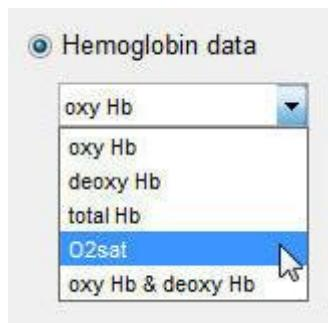

Figure 8-6. Selection of O2sat data.
- Click the **Hemoglobin data** radio button and click on the pull-down menu below the radio button to select the **O2sat** option in the menu, as shown in Figure 8-6.